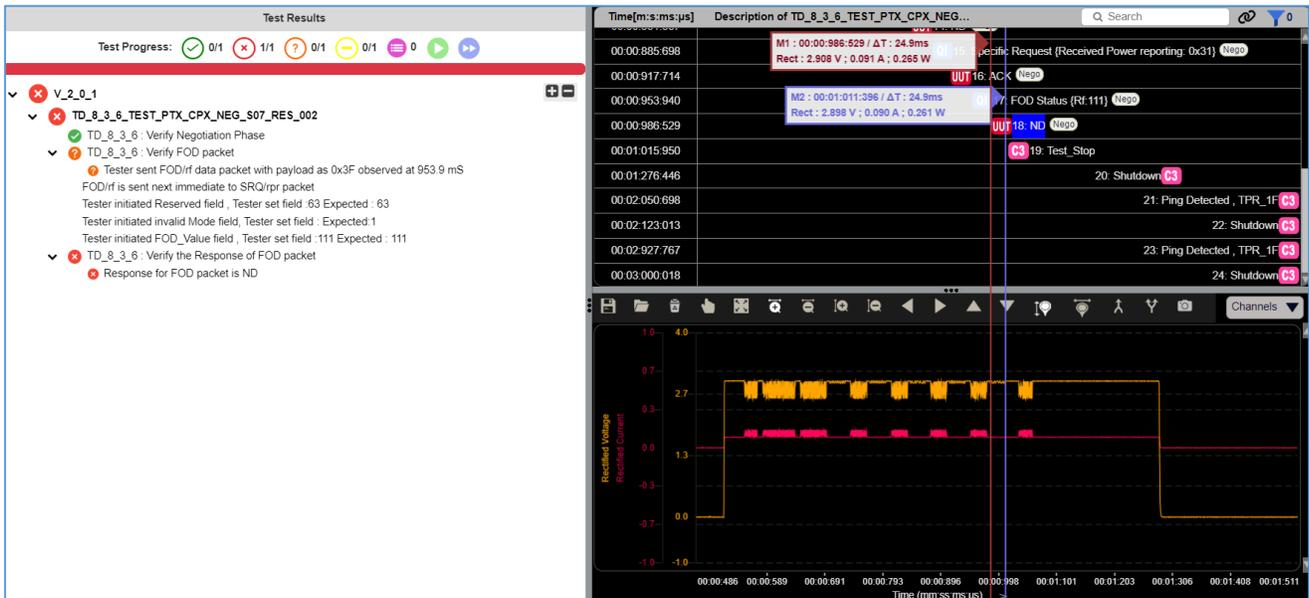

FIGURE 8.67: VERIFY FAILURE PACKET
- To verify the exact failure packet, the user can just select the failure description and the GRL-C3-MP-TPT Browser App will automatically map the respective packet as shown in the example in Figure 8.67 below.